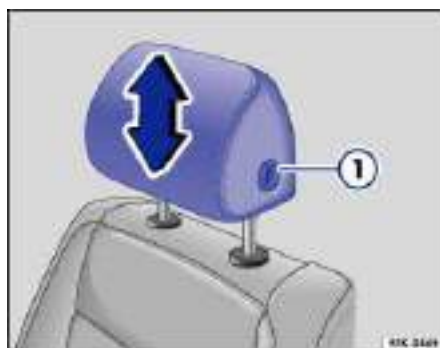
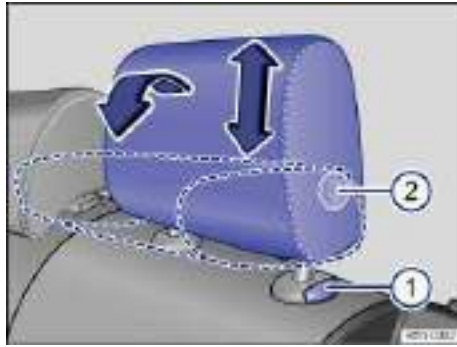

Fig. 46 Adjusting the front head restraints.
Fig. 47 Adjusting or folding the rear head restraints.
- Push the head restraint up in the direction of the arrow or down when the button ⇒ fig. 46 \(1\) or ⇒ fig. 47 \(1\) is pressed ⇒ ⚠.